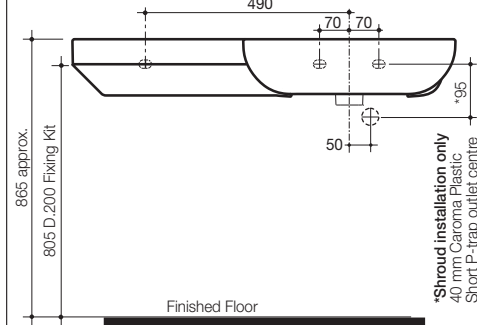

Fig. 1
For timber stud walls, noggins and studs must be positioned at a height to allow for the location of fasteners as detailed in Fig. 1.
- 1- Mark fixing screw hole position on finished wall at the recommended height as detailed in Fig. 1.